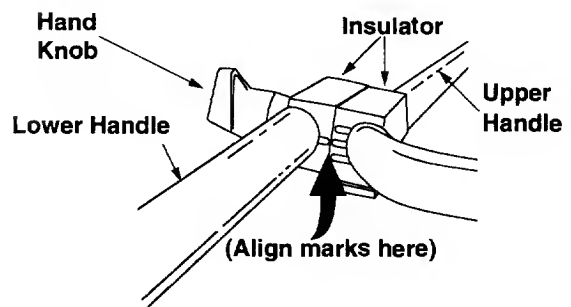

Figure 3
- The upper handle may be adjusted to three different height positions. To adjust the handle at the desired position, align one of the three marks on the top of the lower handle insulators with the mark on the upper handle insulators. See figure 3.